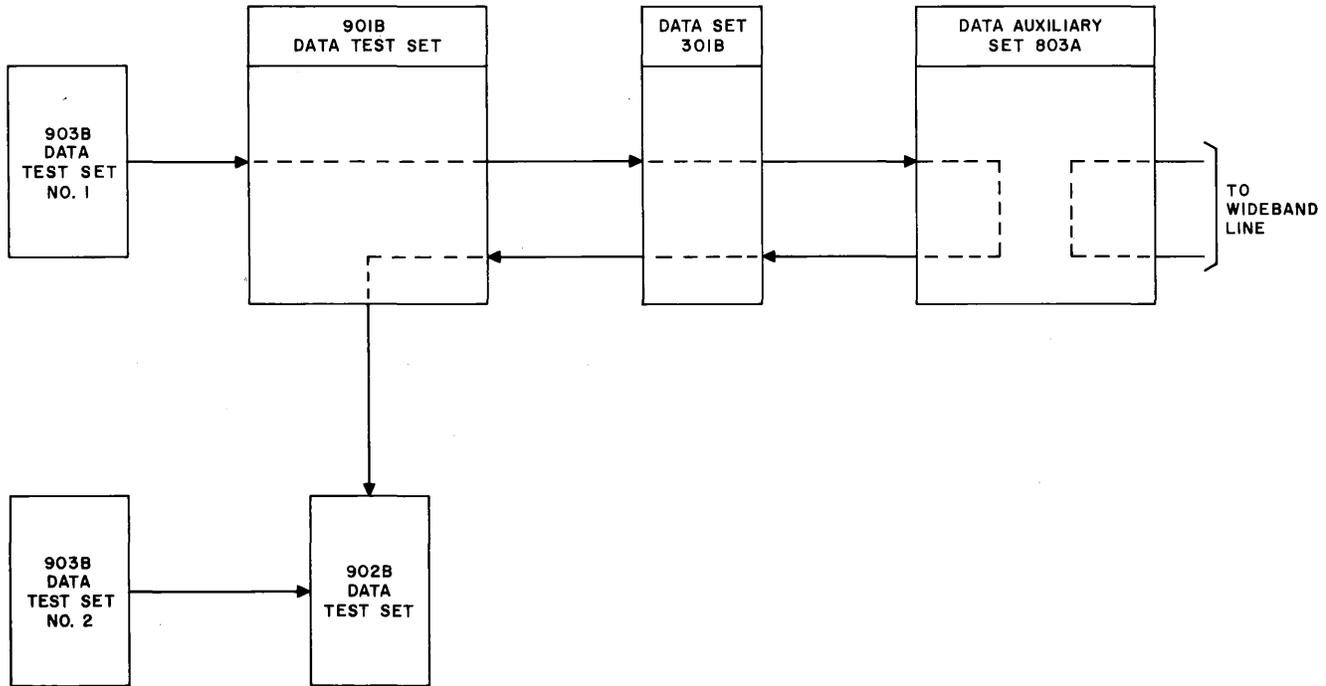

Fig. 1—Back-to-Back Test Using the 901B, 902B, and 903B Data Test Sets and Data Auxiliary Set 803A, Block Diagram
**2.01 Equipment Required:** The equipment required for making the following tests is listed as follows. Figures 1 and 2 show the connections required when making a back-to-back test.